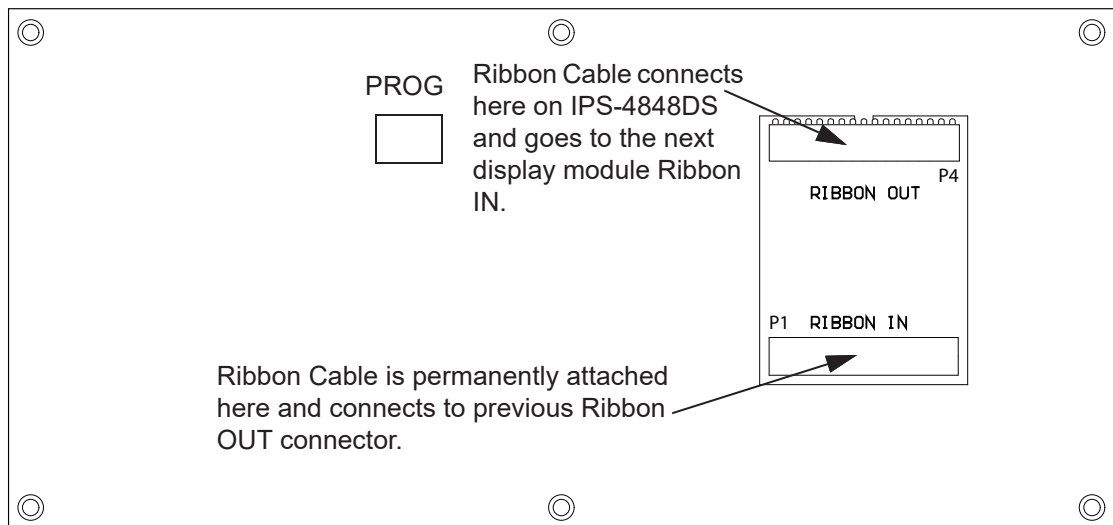

Figure 10 IPS-4848DS Cable Connections
2. Disconnect main and standby power and connect the IPS-4848DS as shown in Figure 10.